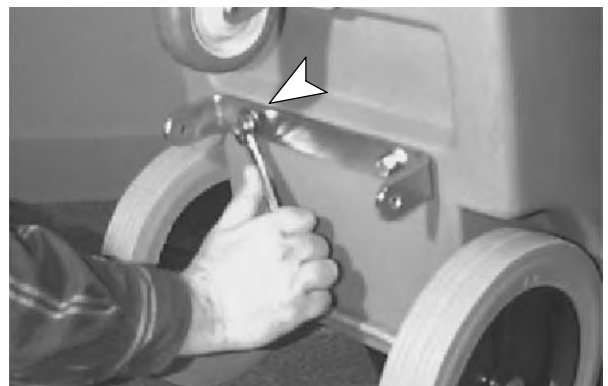

FIG. 1
4. Remove (2) bolts and washers located at bottom of machine.
5. Install squeegee mounting bracket (*supplied with kit*). Re-install bolts and washers (*Figure 1*).